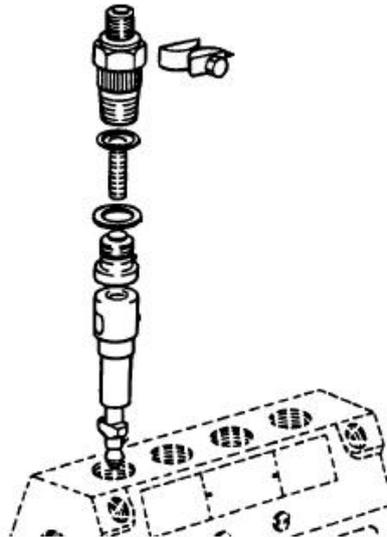

Figure 73 Removing Delivery Valve Holders and Springs
- bb.** Remove the delivery valve holder locking plates and then loosen the delivery valve holders using the socket wrench (Table 3, Serial 29). Remove the delivery valve holders and the delivery valve springs (Figure 73).